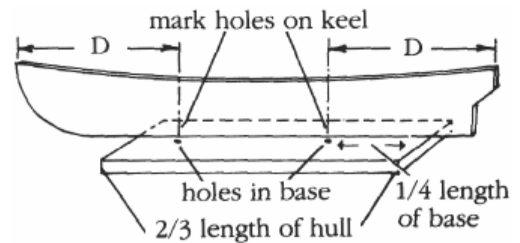

FIGURE 31. *Setting the hull on the base.*
The base should be approximately two-thirds the total length of the hull, with the supports set about one-quarter of the way in on each end. Mark, then drill the holes for the base, using a drill bit the exact size of the screws. (Use #6 wood screws.) Turn the base over and countersink the holes in its bottom. Set the hull in place with the keel near the holes and make sure that the distances (D) are as equal as possible (Figure 31). Now mark the holes' centers on the side of the keel.